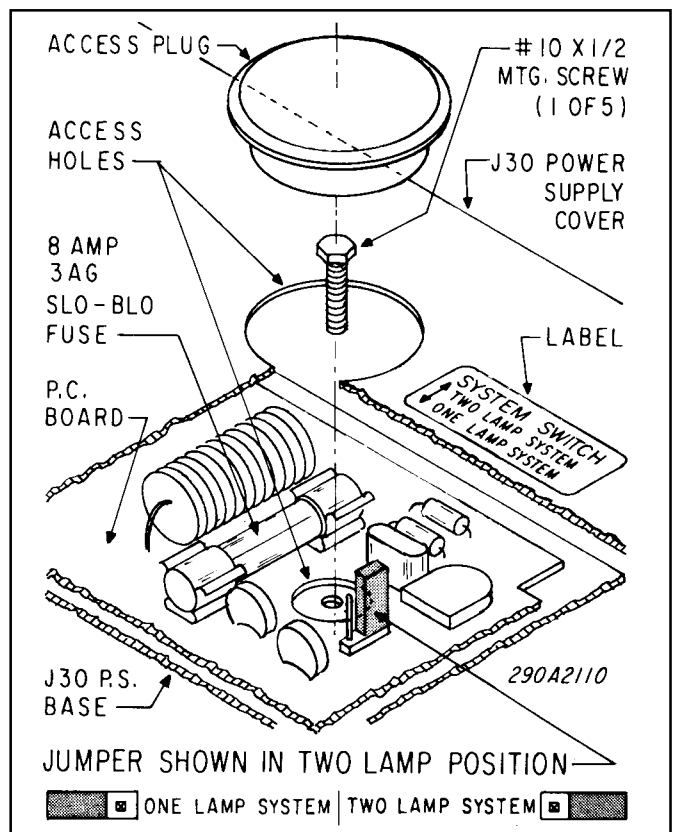

Figure 4.
5. Set jumper in proper position for one or two lamp operation (see figure 4). The jumper can be easily repositioned by inserting longnose pliers through the access hole, grasping the jumper and pulling up. Place jumper in proper position.